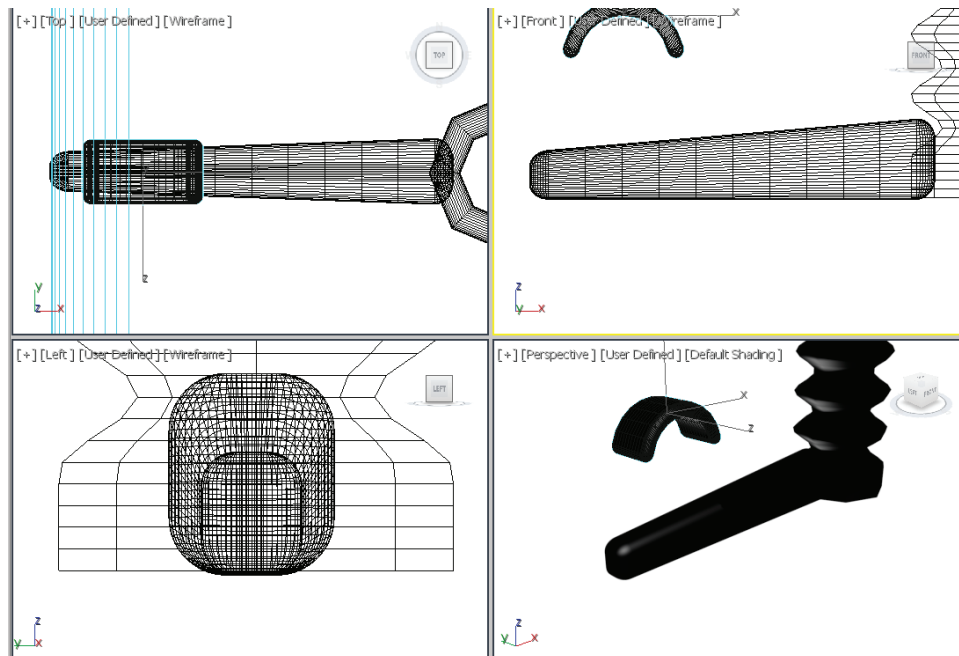

Figure 3-43 The *box01* geometry displayed in viewports after applying the **Bend** modifier
8. After applying the **Bend** modifier, *box01* is displayed, as shown in Figure 3-43.